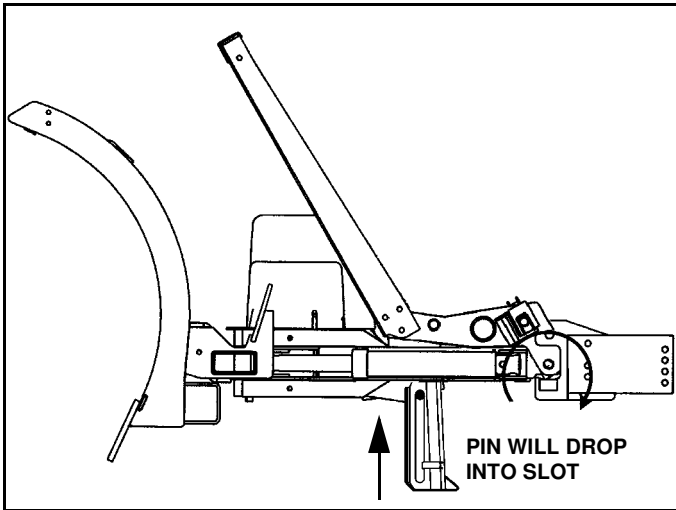

Figure 1-19
3. Rotate light/lift bar into position by turning on down pressure and pressing the lower button. (See Figure 1-19)